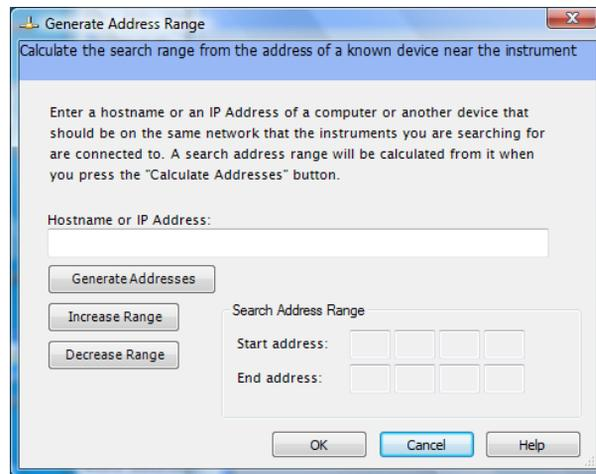

Figure 34 Generate Address Range Dialog
- a. Alternately, select the **Generate Address Range** button. This opens the following dialog (Figure 34).